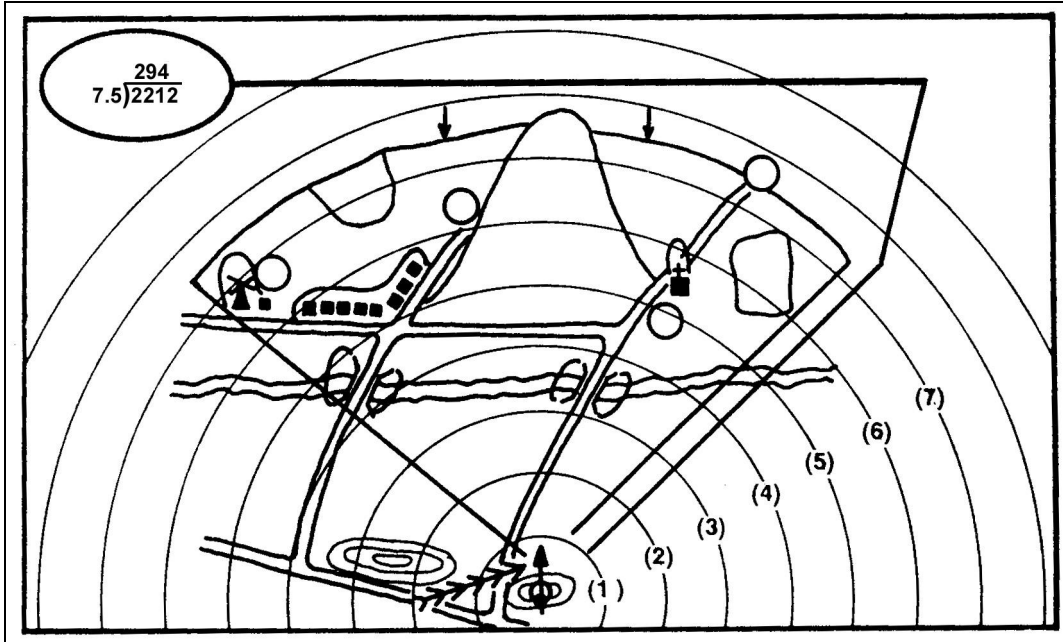

Figure 4-24. Determination of range the circles represent.
- **Each circle equals 294 meters.** Write in the distance in meters between the circles. To find the distance, count the intervals from the weapon to the maximum engagement line. Divide the number of intervals into the range. This gives the distance between circles (Figure 4-24). For example: